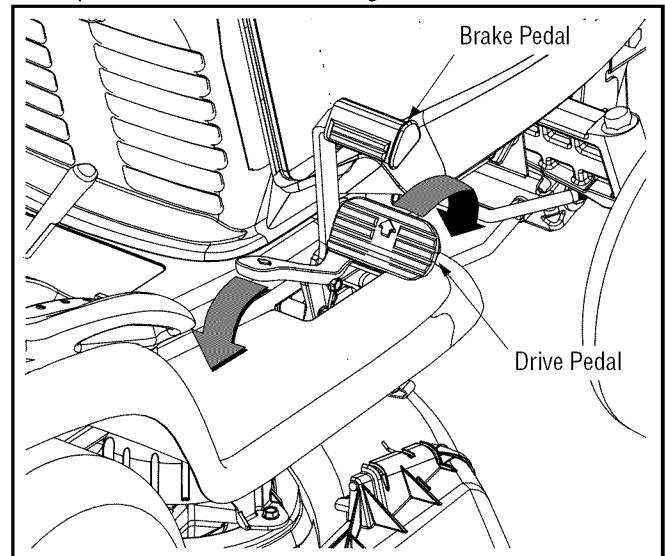

Figure 11
- To travel **FORWARD**, slowly press the upper portion of the drive pedal forward until the desired speed is achieved. See Figure 11.
- To travel in **REVERSE**, check that the area behind is clear then slowly press the lower portion of the drive pedal with the ball of your foot (**NOT** your heel) until the desired speed is achieved. See Figure 11.